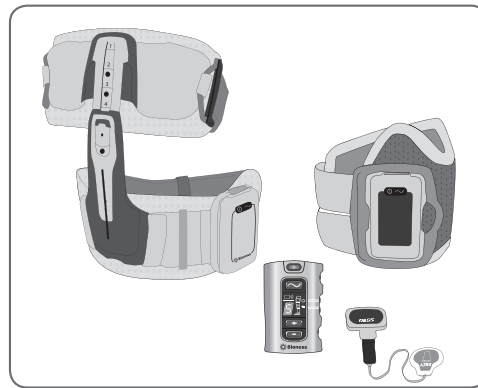

Figure 10-1: Registration setup.
2. Place the L300 RF Stim Unit, Thigh RF Stim Unit, L300 Plus Control Unit, and Intelli-Sense Gait Sensor close together on a table but not touching. See Figure 10-1.